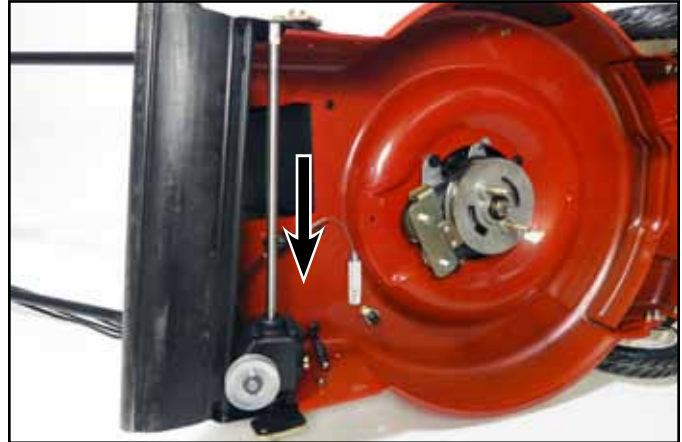

Fig. 145 006a
3. Remove (2) screws (#3) from right side height-of-cut plates.
4. Slide transmission toward the left side of the mower and out of the right hand bearing retainer and pivot arm (Fig. 145).